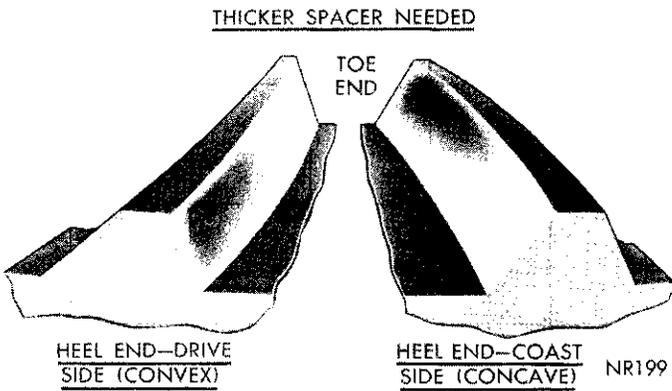
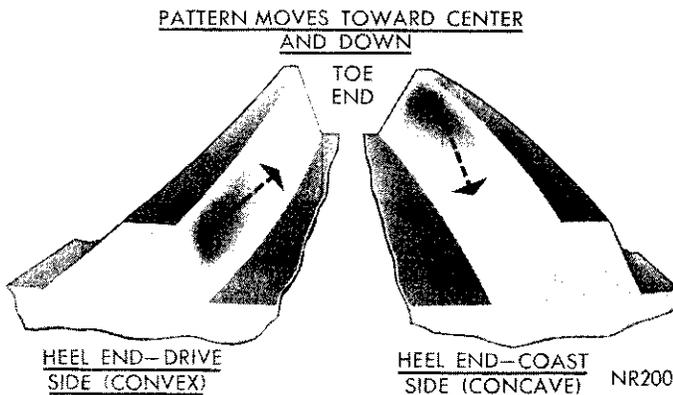

Fig. 33—Incorrect Tooth Contact Pattern (Increase Spacer Thickness)
Fig. 34—Effect on Tooth Contact Pattern as Spacer Thickness is Increased
(3) If after observing the contact pattern you find it resembles that in (Fig. 33), the drive pinion is too far away from centerline of the ring gear, the contact pattern will appear high on the heel on drive side and high on toe on coast side. To correct this type tooth contact pattern, increase the thickness of the rear pinion bearing mounting spacer (Fig. 34), which will cause the high heel contact on drive side to lower and move toward the toe; the high toe contact on coast side will lower and move toward the heel.